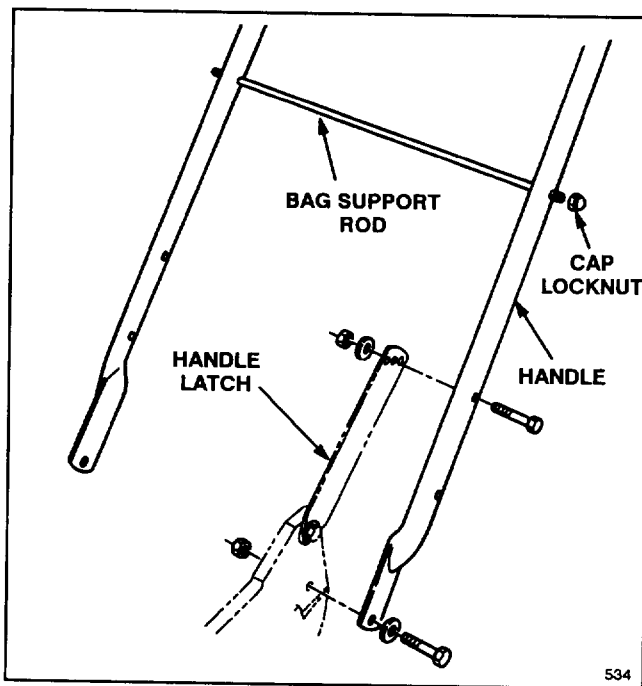

Figure 1
INSTALL HANDLE (Fig. 1)
3. Slide bag support rod thru top mounting holes in handle and secure each end with a cap locknut (Fig. 1).